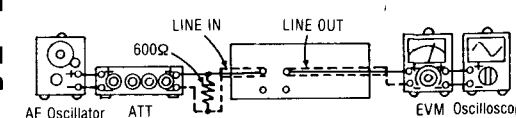

Fig. 8
1. Test equipment connection is shown in Fig. 8, and ground the base of transistor Q41 (L-CH) (Q42 (R-CH)).
5. If it is not within the standard, adjust Tape 1: VR151 (L-CH) and Tape 2: VR201 (L-CH) (Tape 1: VR152 (R-CH) and Tape 2: VR202 (R-CH)) and repeat the step (2), (3) and (4) until the output is within the standard.